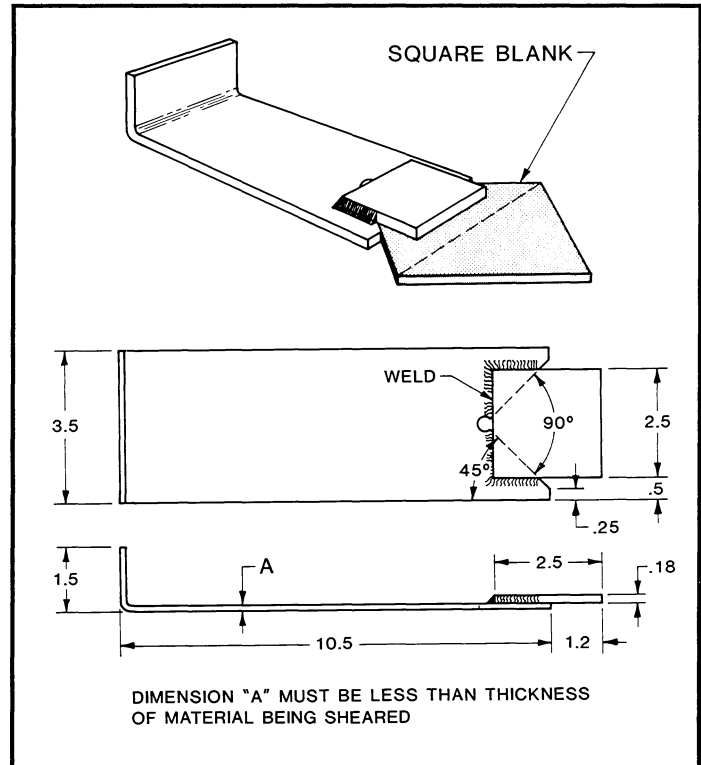

FIGURE 5-8 - Gusset shearing tool
Use the backgage and a special tool similar to Figure 5-8. A light beam shearing gage could be helpful. The following procedure is for 45° gussets. The tool and set-up would vary for other angles.
4. Make tool similar to Figure 5-8. (Note: Thickness "A" must be less than material thickness).